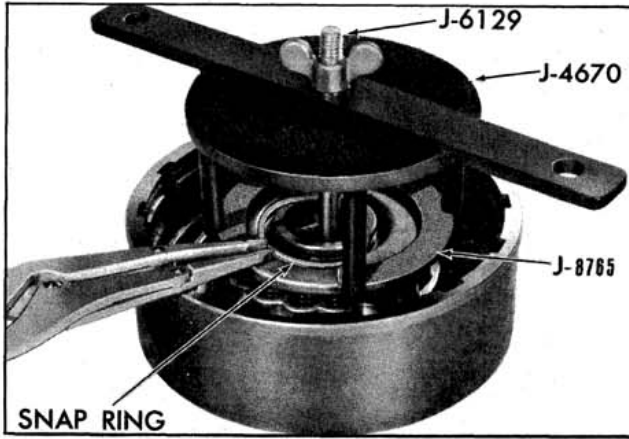

Fig. 6-166 Installing Snap Ring
7. Using Clutch Compressor Tool J-4670, J-6129 and J-8765, install snap ring. (Fig. 6-166)